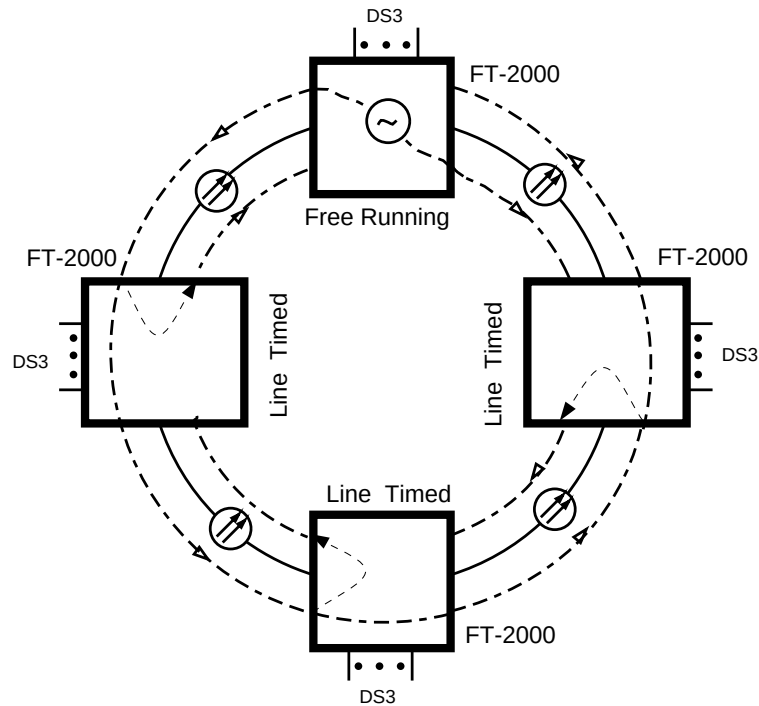

Figure 5-17. Example of a Ring Application with One Node Provisioned Free Running and All Other Nodes Provisioned Line Timed (Without Timing Drops)
- **One node provisioned free running; all other nodes provisioned Line Timed:** Refer to (Figure 5-17).